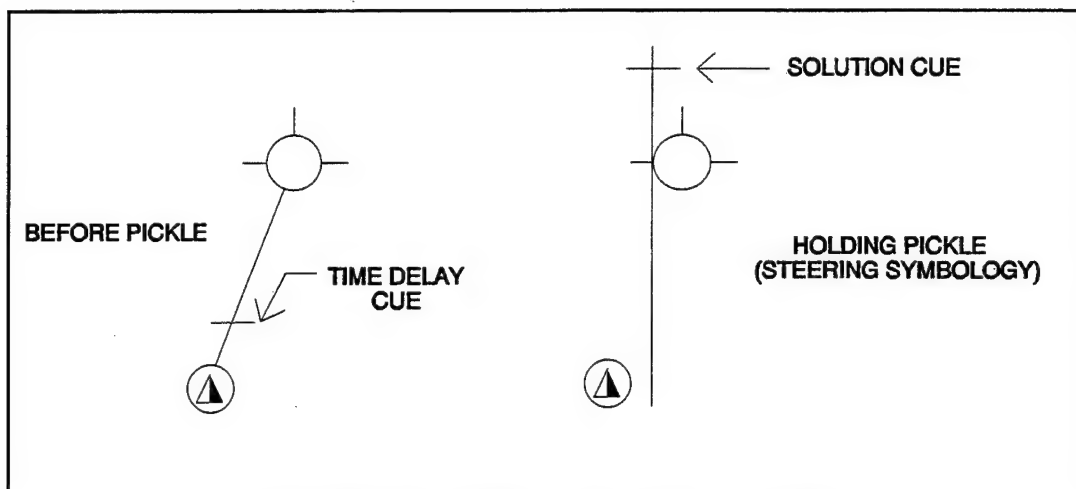

FIGURE 3.9 CCIP Delay Cue Symbology
c. Delayed Release. If the impact point is beyond the HUD FOV (aircraft in a bank), an "X" will appear in the CCIP pipper. For release conditions where the bomb impact point is under the nose of the aircraft, the CCIP pipper cannot be positioned low enough in the HUD at the instantaneous impact point. In this situation, the CCIP pipper is positioned approximately 14 degrees below the boresight cross and time delay is computed, based on the difference between the pipper position and the actual impact point. The presence of the time delay cue indicates this situation exists (See Figure 3.9).
(1) This delivery is exactly the same as the normal release up to the point of pickle.
(2) If the time delay cue is present, hold the pickle button depressed. Steering symbology, will appear.
(3) Fly the FPM to the steering line to null any steering error (just as in a DTOS delivery) while holding the pickle button down.
(4) Release will occur when the solution cue reaches the FPM. In most